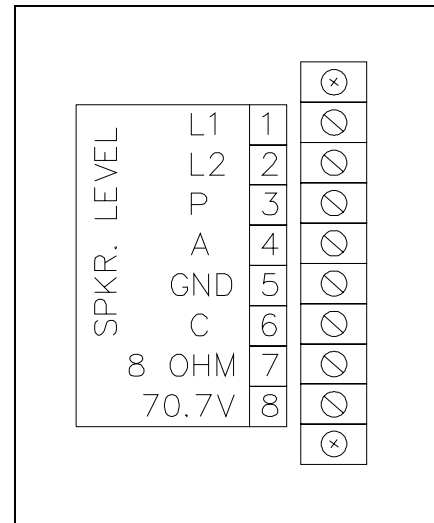

Figure 1. Wiring to Card Rack
5. Refer to Figure 1. Complete the connections to the terminal blocks as noted.